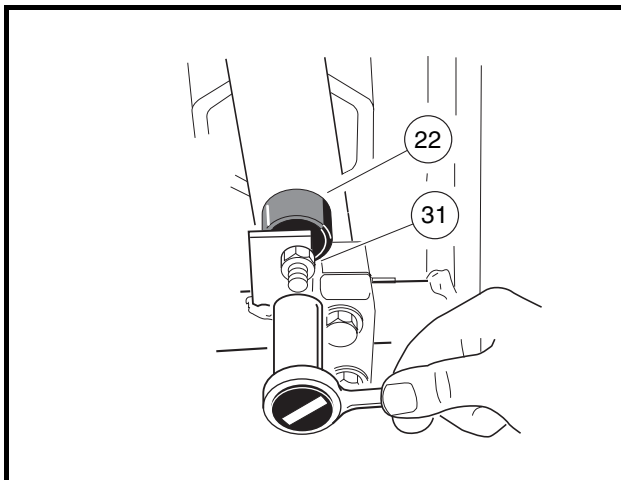

Figure 5-11 Brake Pedal Height Adjustment
- 2.4. Loosen the brake stop jam nut (31), then relieve pedal pressure on the stop by pushing down slightly on the pedal. Next, adjust the brake stop bumper (22) up or down (**Figure 5-11, Page 5-12**). Adjusting the bumper upward decreases distance between pedal and floorboard. Adjusting the bumper downward increases distance between pedal and floorboard. Proper brake pedal height is 6 inches (15.2 cm) (**Figure 5-12, Page 5-12**).
- 2.5. Tighten the jam nut (31) to 8 ft-lb (9.5 N·m) (**Figure 5-11, Page 5-12**).